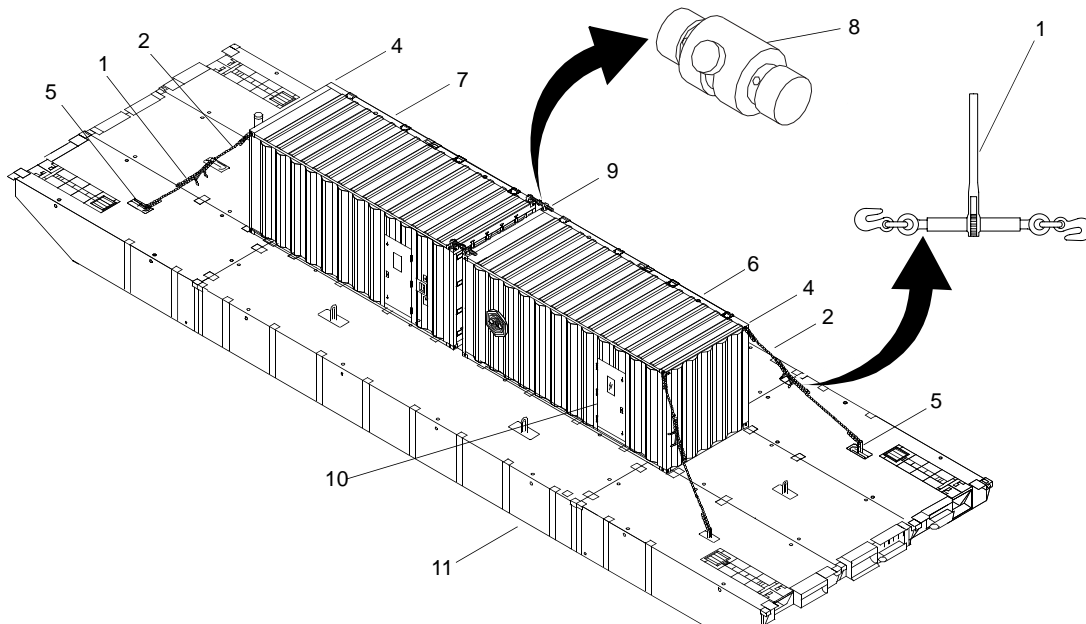

Figure 25. Personnel Shelter
6. Loosen chain binders (figure 25, item 1) to remove tension from chains (figure 25, item 2).
7. Remove chains (figure 25, item 2) between outboard top ISO corners (figure 25, item 4) and end rake padeye lifting shackles (figure 25, item 5) on each side of each side of personnel shelter (figure 25, item 6) and generator container (figure 25, item 7).
8. Remove horizontal twistlocks (figure 25, item 8) or bridgelocks between personnel shelter (figure 25, item 6) and generator container (figure 25, item 7) on inboard top ISO corners (figure 25, item 9).
9. Stow chains (figure 25, item 2), chain binders (figure 25, item 1) and horizontal twistlocks (figure 25, item 8) or bridgelocks in the personnel shelter (figure 25, item 6).
10. Close, lock and dog personnel shelter exterior door (figure 25, item 10).
11. Using crane, remove personnel shelter (figure 25, item 6) from FC pierhead (figure 25, item 11).